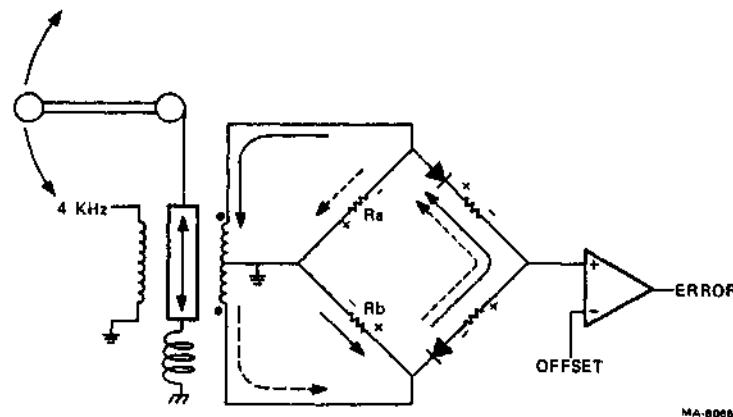
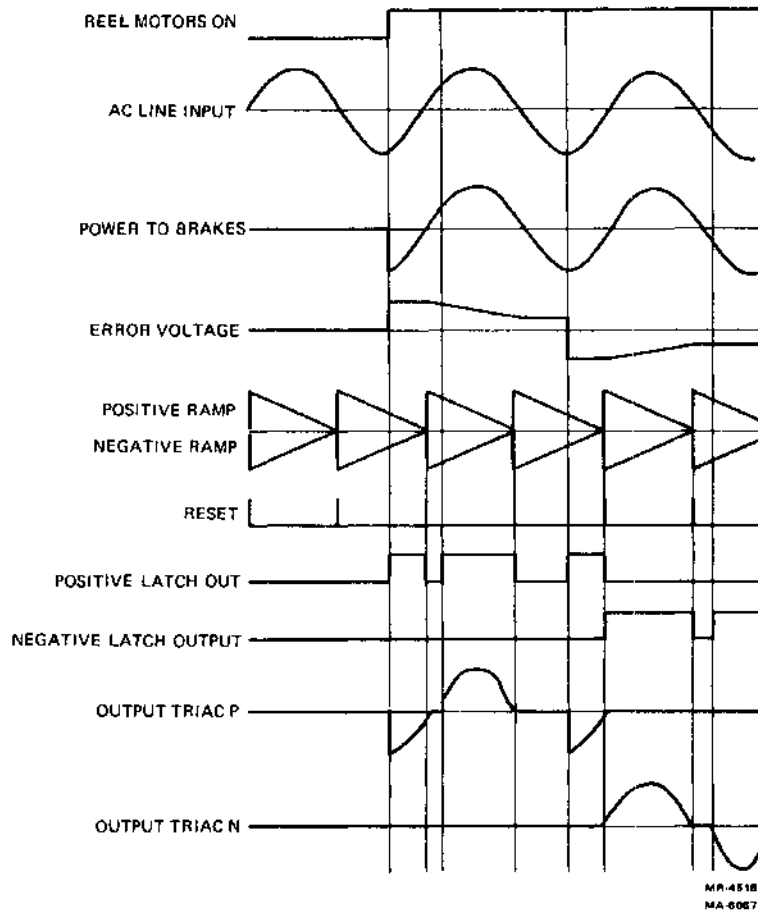
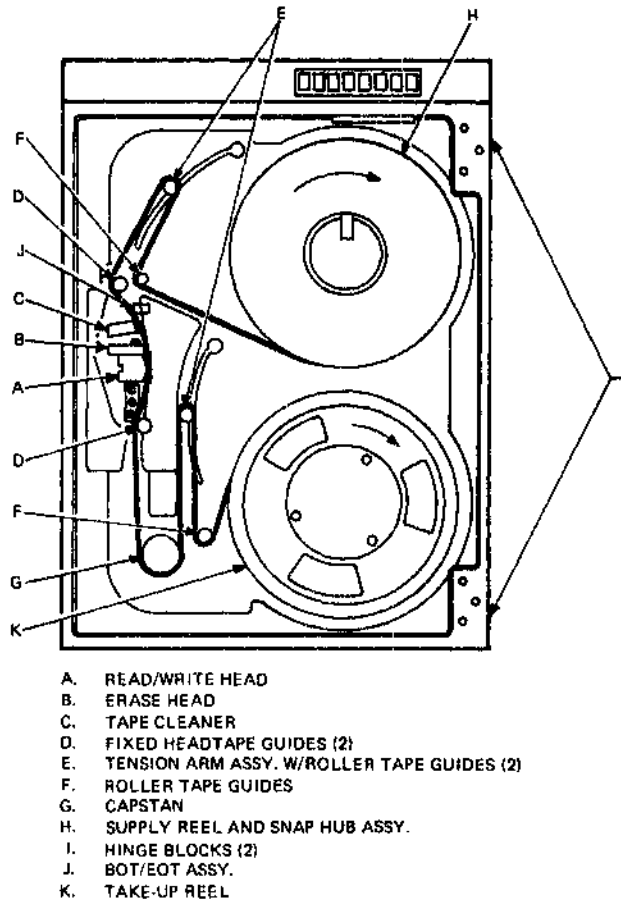

Figure 6-22 Tension Arm Transducer
Figure 6-23 Signal Relationships
Figure 6-24 Tape Loading Path
Figure 6-22 provides more detail of the transducer error circuitry, Figure 6-23 shows signal relationships, and Figure 6-24 shows the tape load path. Table 6-13 gives a summary of the operation of the tape tension function.
6.5.4.1 Tension Arm Error Signal (Figure 6-22) – The tension arm transducer is a transformer with a moveable core or slug. The slug is connected between the pivot end of the tension arm and tension spring. Tape motion moves the tension arm causing the slug to move. The degree of coupling between the primary transformer winding and one half of the secondary is increased, causing the current to increase in the secondary winding. Coupling to the other half decreases, decreasing secondary current in that half. The secondary winding is wound so that these currents are out of phase, and connected to the input of a bridge. Current flows through one half of the secondary winding or the other on alternate half cycles of the 4 KHz input. The signal at the noninverting input to the error signal amplifier becomes:
The positive and negative ramps are synchronized to the zero crossing point of the ac input (Figure 6-23). When the error signal exceeds the ramp voltage, the output of the comparator is asserted. An error signal exceeding the positive ramp asserts ARM DOWN, and an error signal exceeding the negative ramp will assert ARM UP. Thus the relationship between the error signal and the ramps determine how long the ARM UP or ARM DOWN signal is asserted during each half cycle of the ac input.